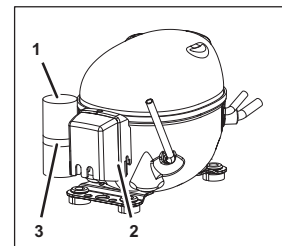

Fig. 56
2. Remove the cover (Fig. 56/2) from the electrical assembly.
7. Attach the cover (Fig. 56/2) of the electrical assembly.